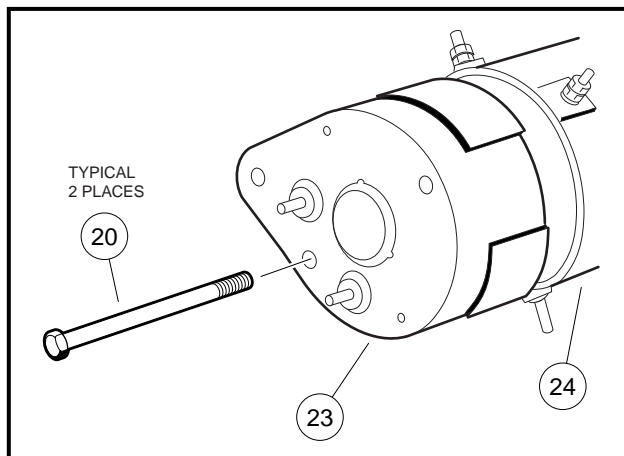

Figure 12-3 Commutator End Cover
1. Remove the two bolts (20) and pull commutator end cover (23) free of starter/generator housing (24) (Figure 12-3, Page 12-4). See following **NOTE**.
3. Install the commutator end cover (23) onto the armature shaft. Align the locating pin with the pin hole in the cover. Install two M6 x 1 x 180mm bolts (20) and tighten to 100 in-lb (11.3 N-m) (**Figure 12-3, Page 12-4**).
2. Remove the two bolts (20) and pull commutator end cover (23) free of the starter/generator housing (24) (**Figure 12-3, Page 12-4**).